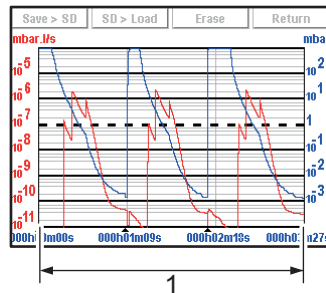

Fig. 14: Viewing a recording
→ Set the area to be reduced (ref. 1 then ref. 2 Fig. 14): return to the original graph.